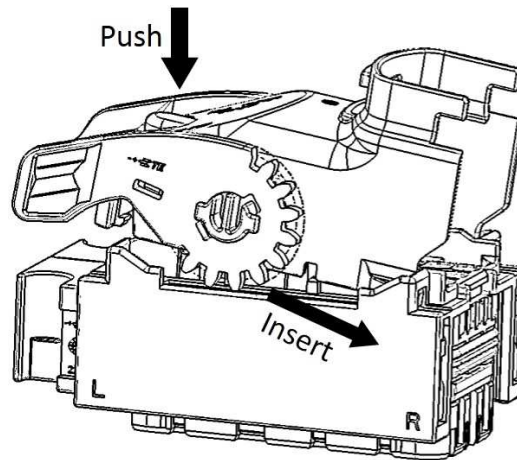
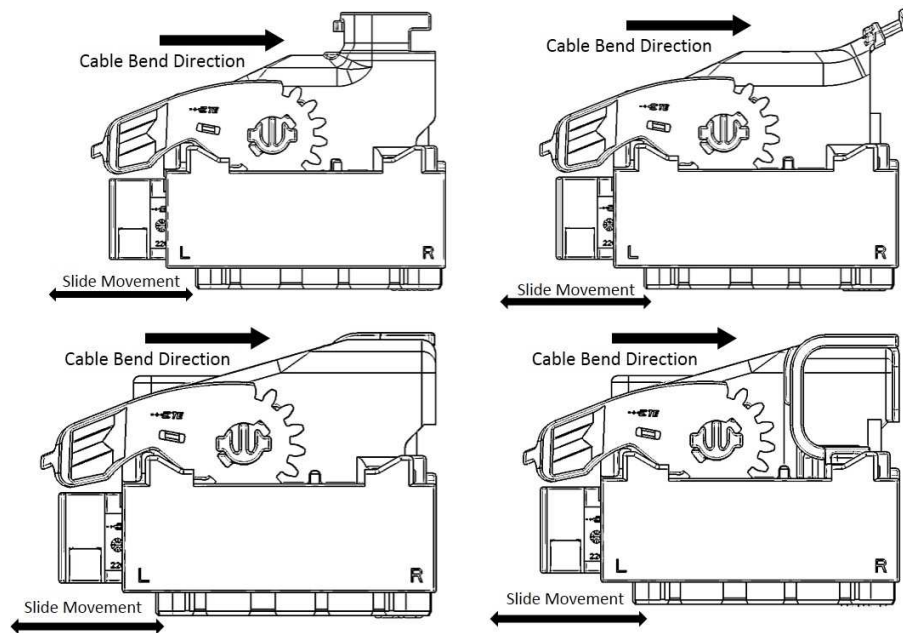

Figure 8
Figure 9
For mounting of the Cover-Lever assembly's (6, 7, 8, 9), the lever and the slide in the housing (1) of 91 position connector must be in end lock position. The cable must be bend to the right side of housing (as shown in figure 9) and the Cover-Lever assembly's (6, 7, 8, 9) must be mounted and pushed till the locking noise heard (as shown in figure 8). The end lock position of the lever will be in the left side of the housing.
If the Cover-Lever assembly's (6, 7, 8, 9) are mounted other than the shown direction (figure 9), the lever cannot be operated and it's unable to mate the connector with male part.